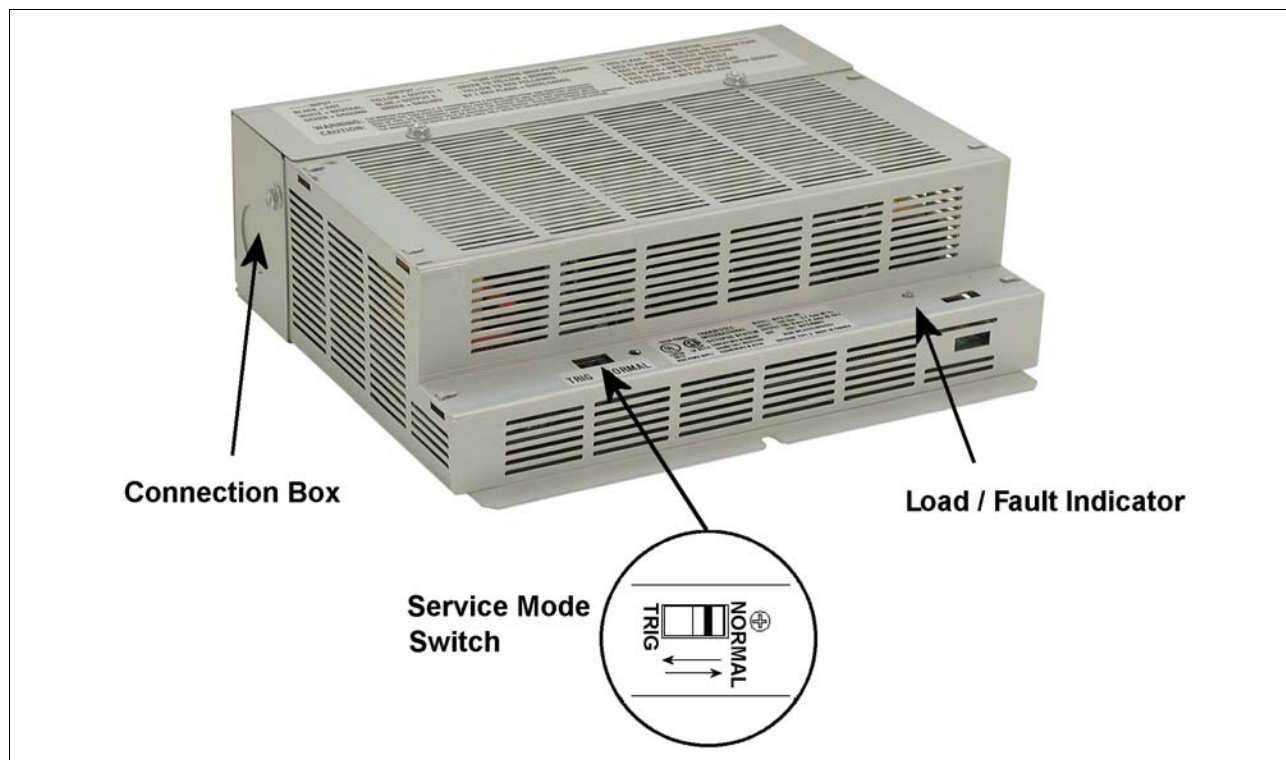

Figure 15 — OCTOPUS MPS device with Load/Fault Indicator and Service Switch.
A LED indicator located on the front of the MPS enclosure (Figure 15) indicates the current operative condition of the **Octopus** Installation. When the indicator lights on green or yellow-green, the system runs normally.
1. The Master Power Supply is equipped with six (6) **fault detection circuits** including a **Secondary Ground Fault Protection (SGFP)** circuit.
2. **Automatic Reset:** Upon fault detection, the **MPS** momentarily shuts down for 10 seconds and tries to reset three (3) times consecutively. Then, if the fault condition persists, the MPS shuts down definitively. The MPS can also be reset manually by turning the power on and off successively at the service panel.
3. **Flashing Pattern:** Upon fault occurrence, the LED indicator (Figure 15) flashes red in a specific pattern as a function of the nature of the fault. Wait until the automatic resets are done (3 cycles), then use the **Troubleshooting Chart** of Table 3 to identify the fault origin.